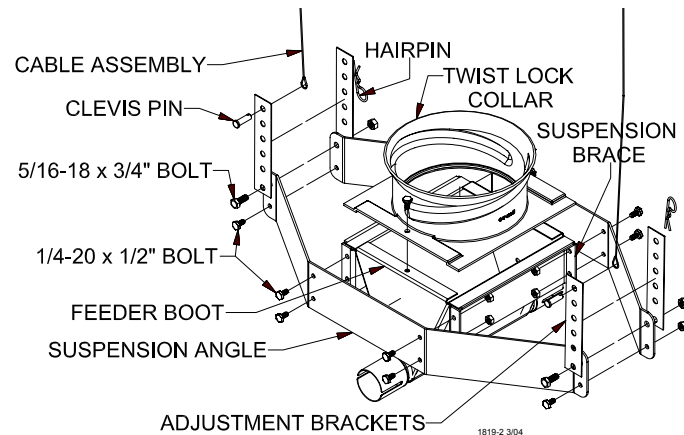

Figure 2.
4. Assemble suspension angles and suspension braces around feeder line boot (single or twin), using 1/4-20 x 1/2" Hex bolts and nuts (supplied in hardware package). See Figure 2.
5. Assemble the twist lock collar to the top of the feeder line boot (single or twin) using 1/4-20 x 1/2" bolts and lock nuts (supplied in hardware package). See Figure 2.
7. Two cable assemblies (cable with a sleeve clamp and a 5/32 thimble) are supplied with the suspension kit to support the hopper. Attach the cable assemblies to the adjustment brackets using the top holes of the adjustment brackets. See Figure 2.